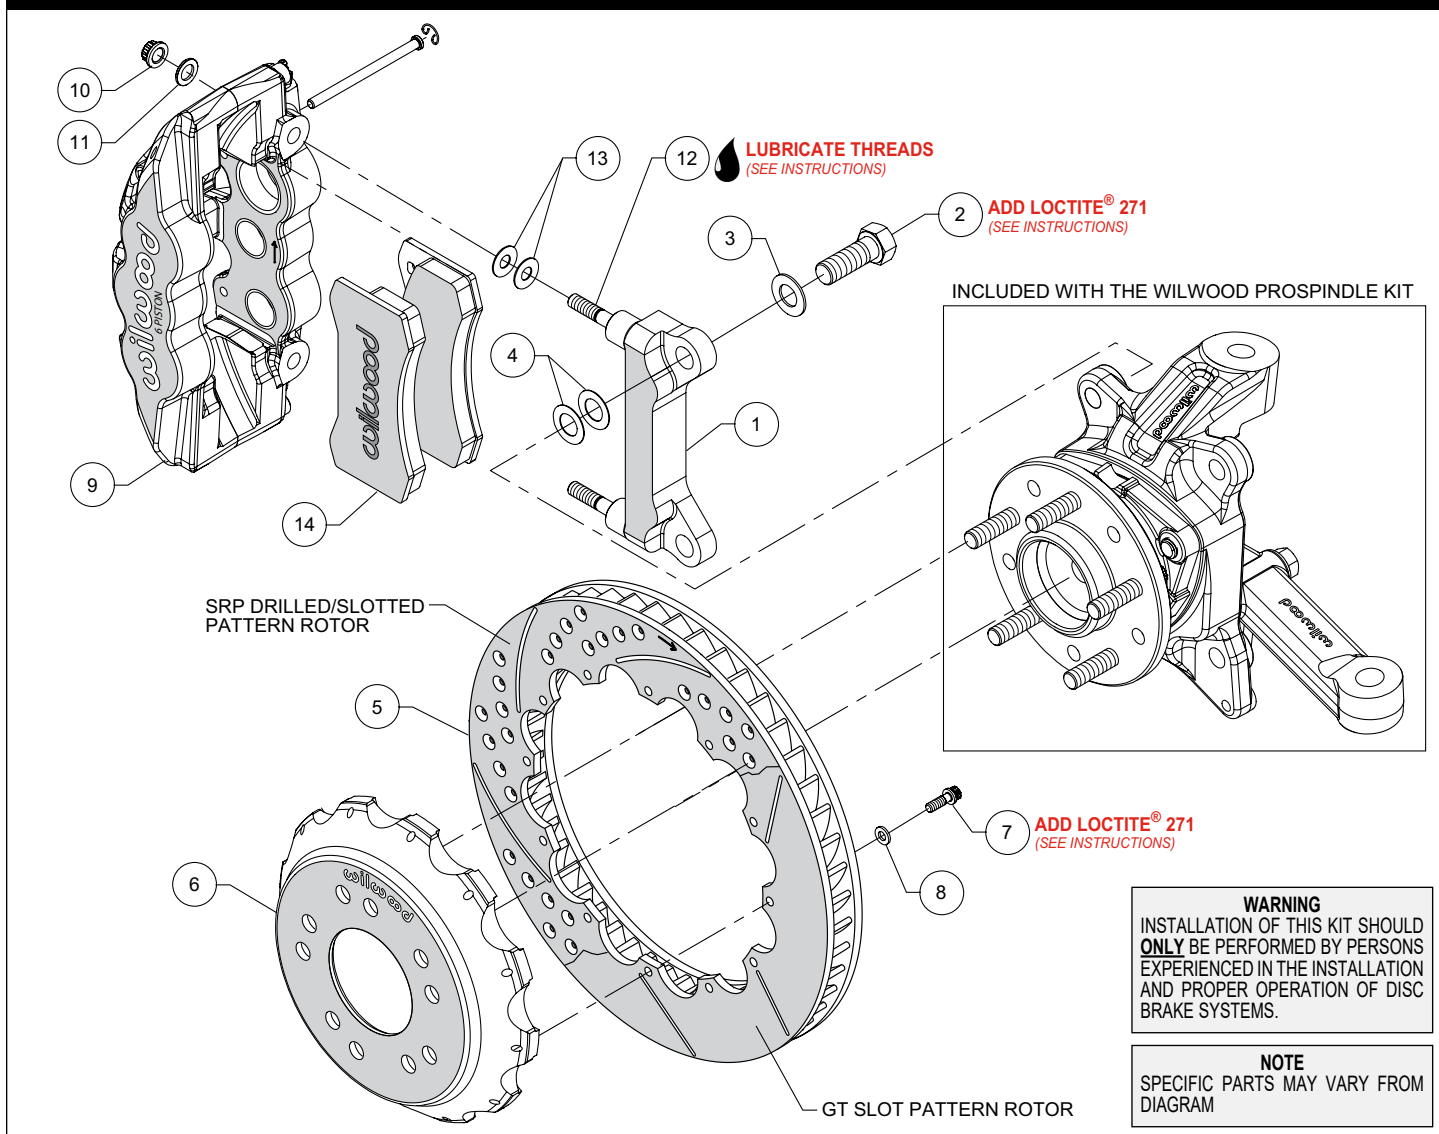
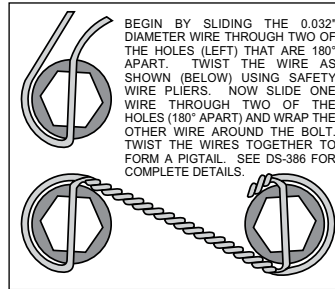

Figure 1. Typical Installation Configuration
Figure 3. Safety Wire Diagram
NOTE: Numbers in parenthesis refer to the parts list and Figure 1 on the preceding pages.
- The caliper mount bracket (1) should initially be installed with clean, dry threads on the mounting bolts. Orient the bracket as shown in Figure 1 and Photo 1 and install using mount bolts (2) and washers (3). Initially place two .024" thick shims (4) on each bolt between the bracket and spindle, Figure 1. Temporarily tighten the mounting bolts. **NOTE:** The bracket must fit squarely against the mounting points on the spindle. Inspect for interference from casting irregularities, machining ridges, burrs, etc. Later, after the caliper alignment has been checked, the mount bolts will be secured using red *Loctite*® 271.
- Orient the rotor (5) and the hat (6) as shown in Figure 1 and Photo 2. Attach rotor to hat using bolts (7) and washers (8). Apply red *Loctite*® 271 to the bolt threads and torque to 155 **in-lb** using a criss-cross pattern. For an added measure of security, the bolts may be safety wired using standard 0.032 inch diameter stainless steel safety wire as shown in Figure 3. Please refer to Wilwood's data sheet DS-386 (available at www.wilwood.com/Pdf/DataSheets/ds386.pdf) for complete safety wire installation instructions.
- **NOTE:** *This kit contains distinct right and left hand calipers that must be mounted in a specific direction, as described below.* Lubricate the caliper mounting studs (12) with lightweight oil. Initially place two .030" thick shims (13) on each stud between the caliper and the bracket, as shown in Figure 1 and Photo 5. Mount the caliper (9) onto the bracket (1) using lock nuts (10) and washers (11), Figure 1. Ensure that the caliper is mounted so the largest pistons are at the rotor exit end of the caliper, in relation to the direction of rotor rotation. Temporarily tighten the lock nuts and view the rotor through the top opening of the caliper. The rotor should be centered in the caliper, Photo 6. If not, adjust by adding or subtracting shims (4) between the bracket and the spindle. Always use the same amount of shims on each of the two mounting bolts. Once the caliper alignment is correct, remove the bracket mounting bolts one at a time, apply red *Loctite*® 271 to the threads, and torque to 140 ft-lb.
- Remove the two pad retaining pins from the caliper (9) by carefully popping out the pin retaining clips and sliding out the pins. Insert the brake pads (14) into the caliper from the bottom, Figure 1, Photo 7. With the friction material facing the rotor, secure the brake pads in place with the pad retaining pins and clips, Photo 8. Reinstall the caliper onto the caliper mounting bracket and temporarily tighten the lock nuts. Check that the top of the brake pad is flush with the outside diameter of the rotor, Photo 9. If not, adjust by adding or subtracting shims (13) between the caliper and the bracket. After the caliper pad height is set, torque the caliper lock nuts (10) to 47 ft-lb.